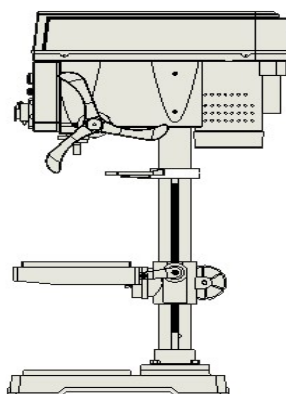

Figure 5
Step 6 Put the head attached to the column. turning left and right and press the head down,, make sure that the column has been inserted into the top of the nose, and there is no gap between the column and the head.. Figure 5